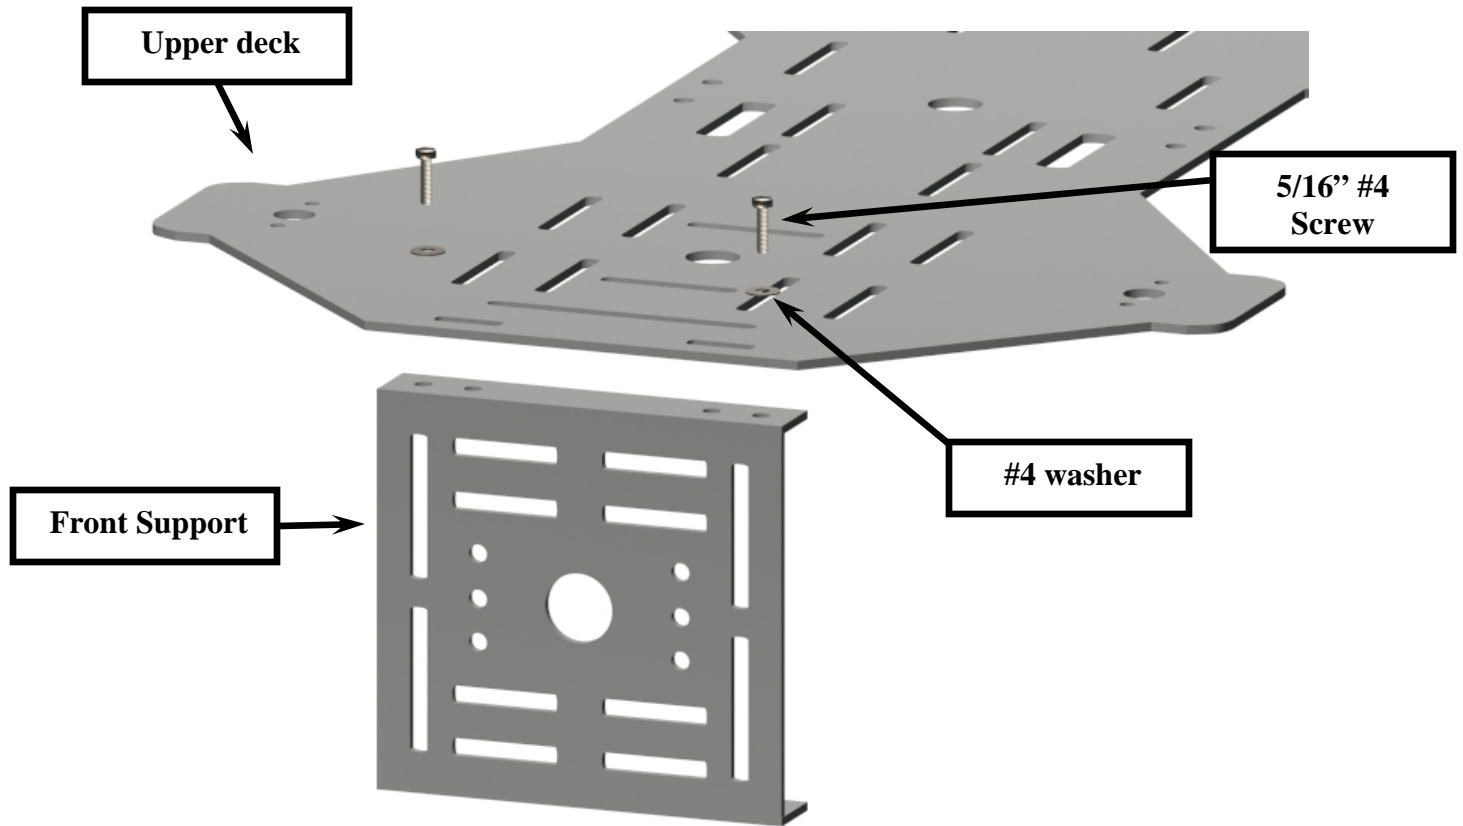
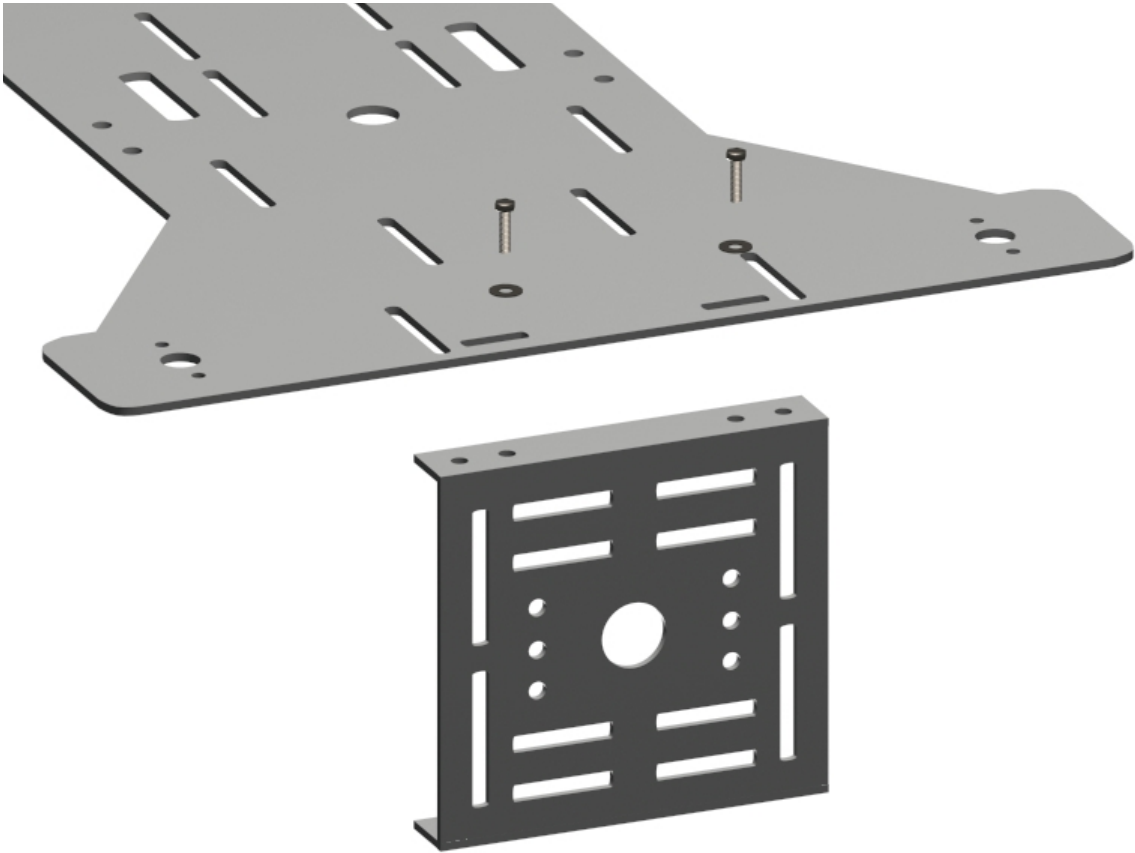

Figure 30
Figure 30a
- Using (2) 5/16" #4 screws and washers, install the front and rear support brackets as shown in Figure 30 and Figure 30a.